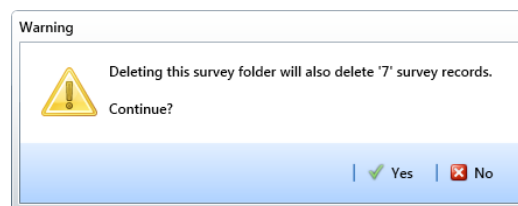

Figure 6-10. Warning
- Click **Yes** when a warning displays asking if you want to continue deleting the survey folder and associated survey readings (Figure 6-10).